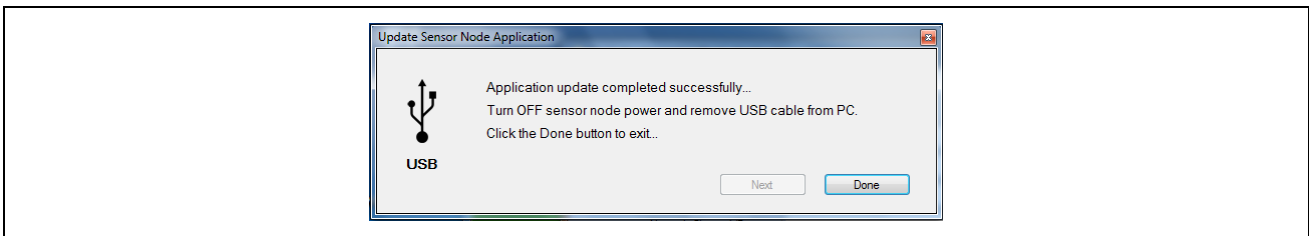
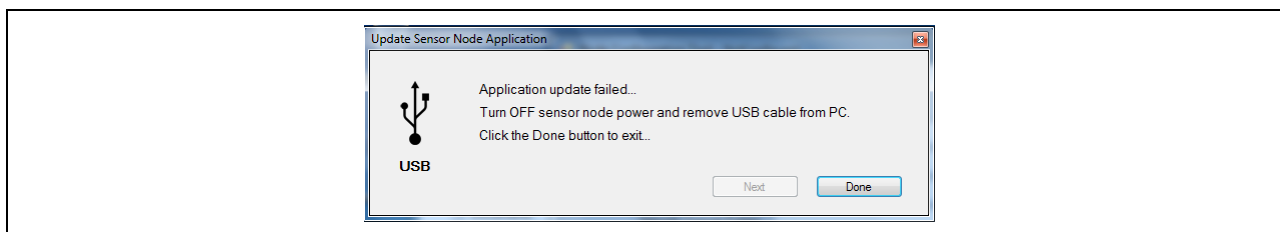

Figure 16 Application Completed Successfully Dialog
Figure 17 Application Update Failed Dialog
- If the update completed successfully the dialog seen in Figure 16 will be shown. If the update failed then the dialog seen in Figure 17 will appear indicating that the update failed.